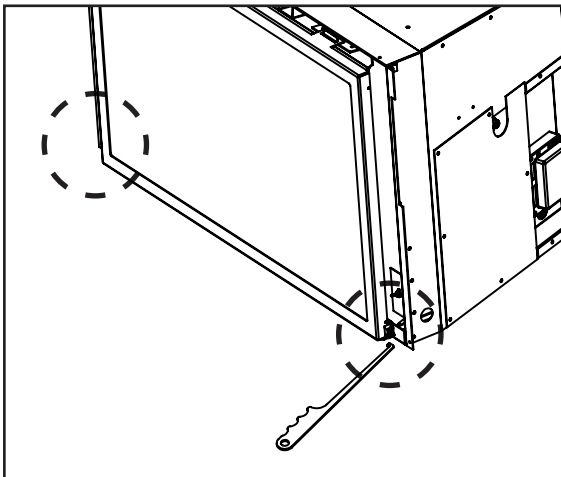
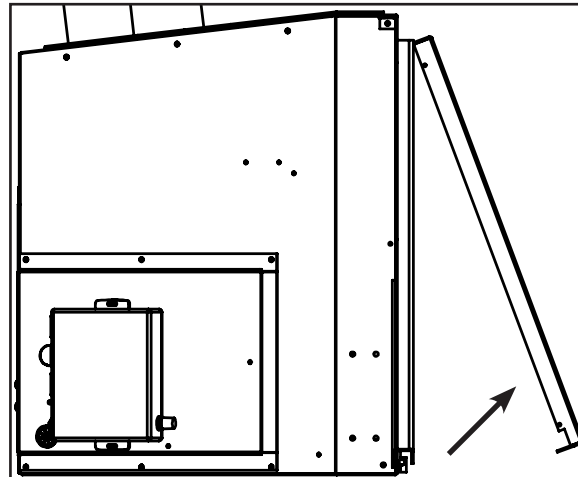

Figure 19: Door Release.
Figure 20: Door Removal.
Remove the glass door by placing the hooked end of the door release tool in the hole on the door latch mechanism (see Figure 19) and pulling the latch out then up. When the two (2) latches have been released, tilt the bottom of the door forward and then lift up to unhook the top door tabs (see Figure 20.)